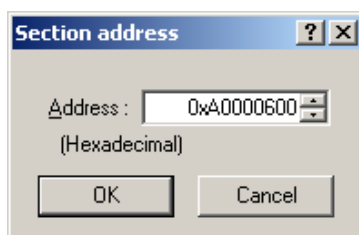

Figure 5.3.11 Section Setting (3/6)
(3) The [Section address] dialog box will open. Enter "0xA0000600" in the [Address] as shown in Figure 5.3.11 and click "OK".